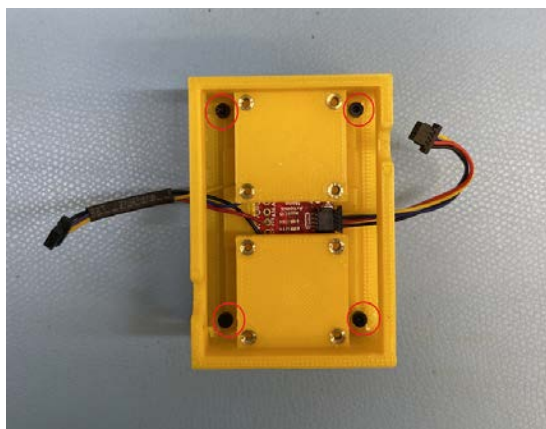

Figure 90:: Microcontroller fixture is screwed onto the pressure sensor mount
12. Using four M2 x 5 mm socket head cap screws and a 1.5 mm allen key, screw the fixture to the mount starting with one corner and going in a torque pattern (Fig 90).